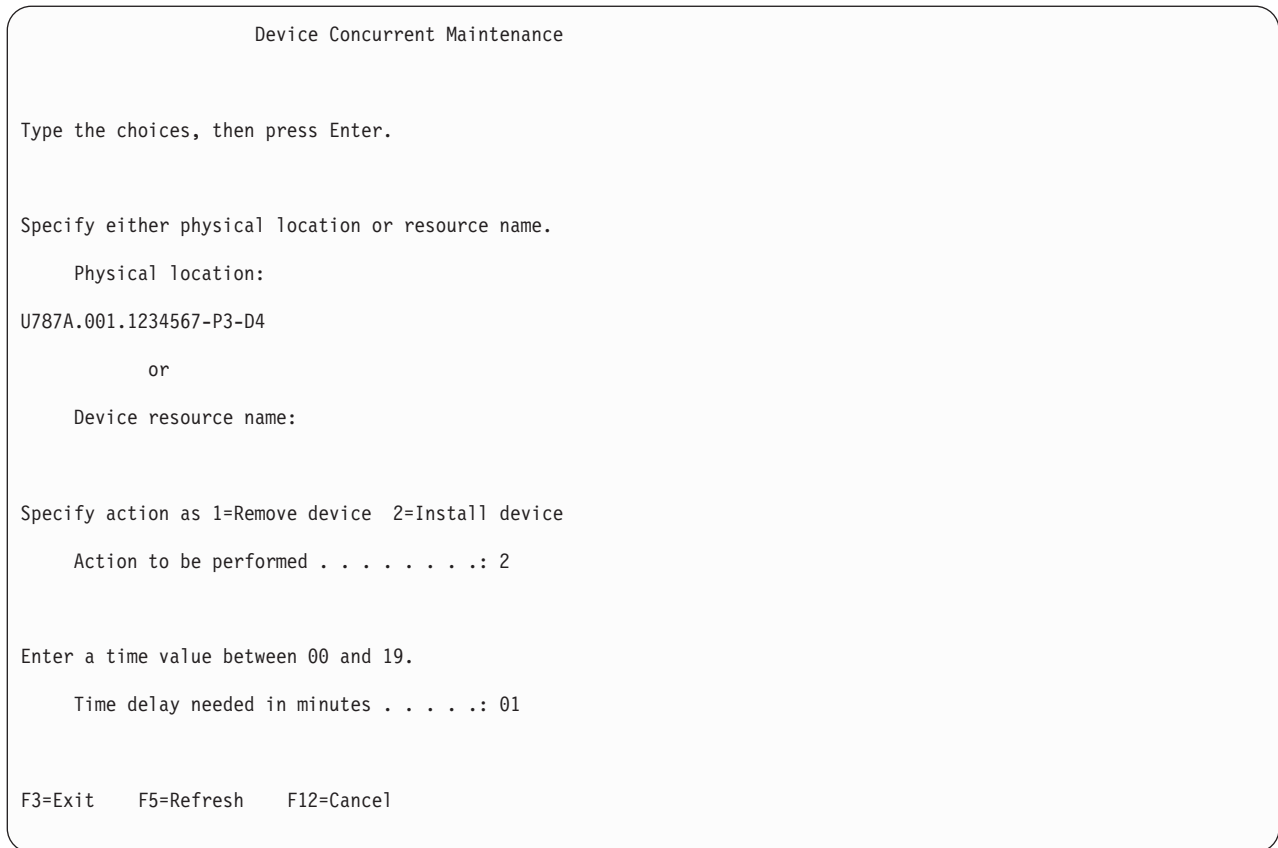

Figure 31. Example Device Concurrent Maintenance display
8. In the **Specify either physical location or resource name** field, type the physical location that you had previously recorded in this procedure, as shown in Figure 31.